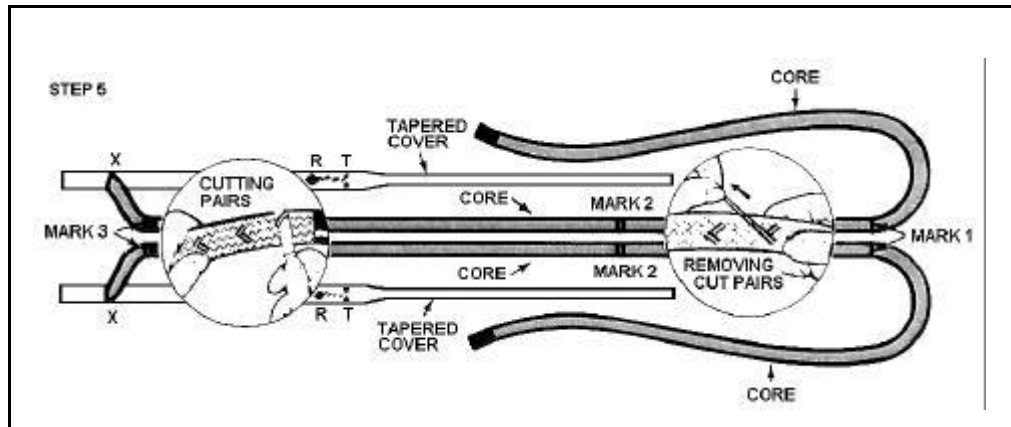

Figure 12-70. Performing the Taper
- **STEP 5 -- Performing the taper.** Remove tape from cover end. Starting with last marked pair of cover strands toward the end, cut and pull them completely out (see Figure 12-70 insert, page 12-58). Cut and remove next marked strands and continue with each right and left marked strands until you reach point T. Do not cut beyond this point (see Figure 12-70 insert, page 12-58). Retape tapered end. Cut and remove marked strands on the other marked cover, again stopping at point T. Retape tapered end.